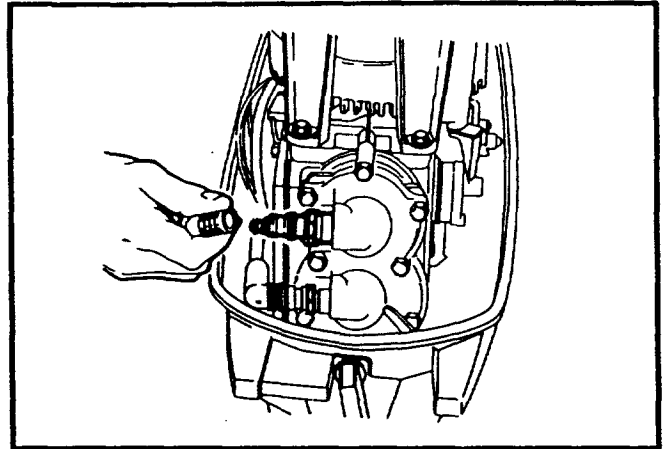

FIGURE 24
- Disconnect spark plug lead by twisting slightly and pulling (Figure 24).